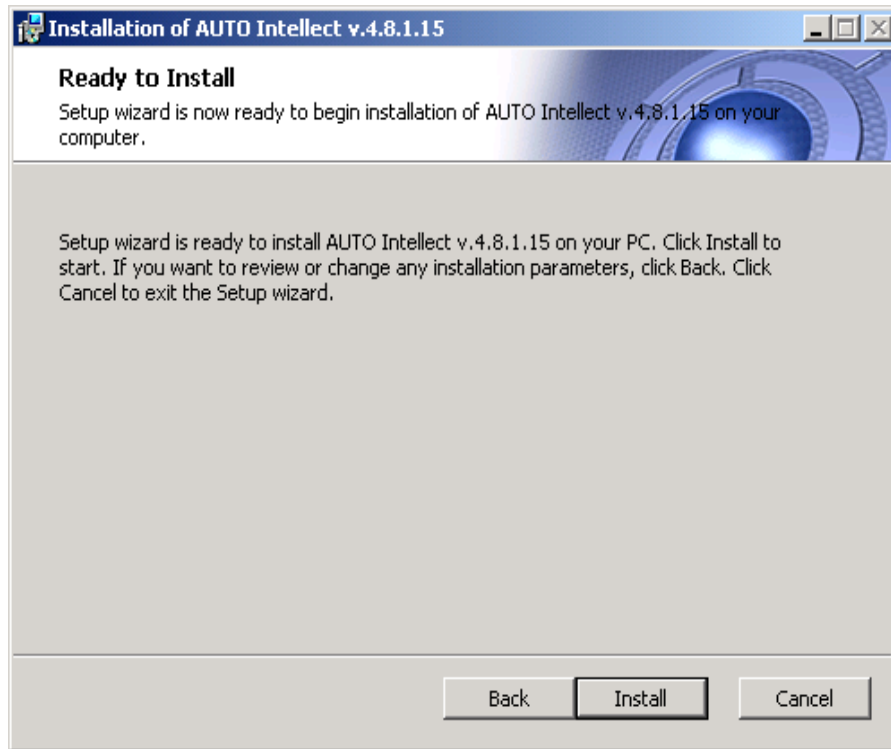

Fig. 6.3-4 Ready to install dialog box
Step 5. In “Ready to install” dialog box click “Install” to continue the installation process (see Fig. 6.3-4)